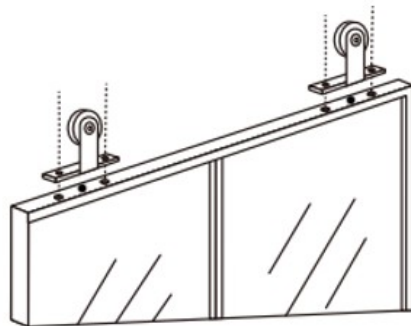

Figure 11
- Align the holes on the top mount roller with the holes on door slab as Figure 11